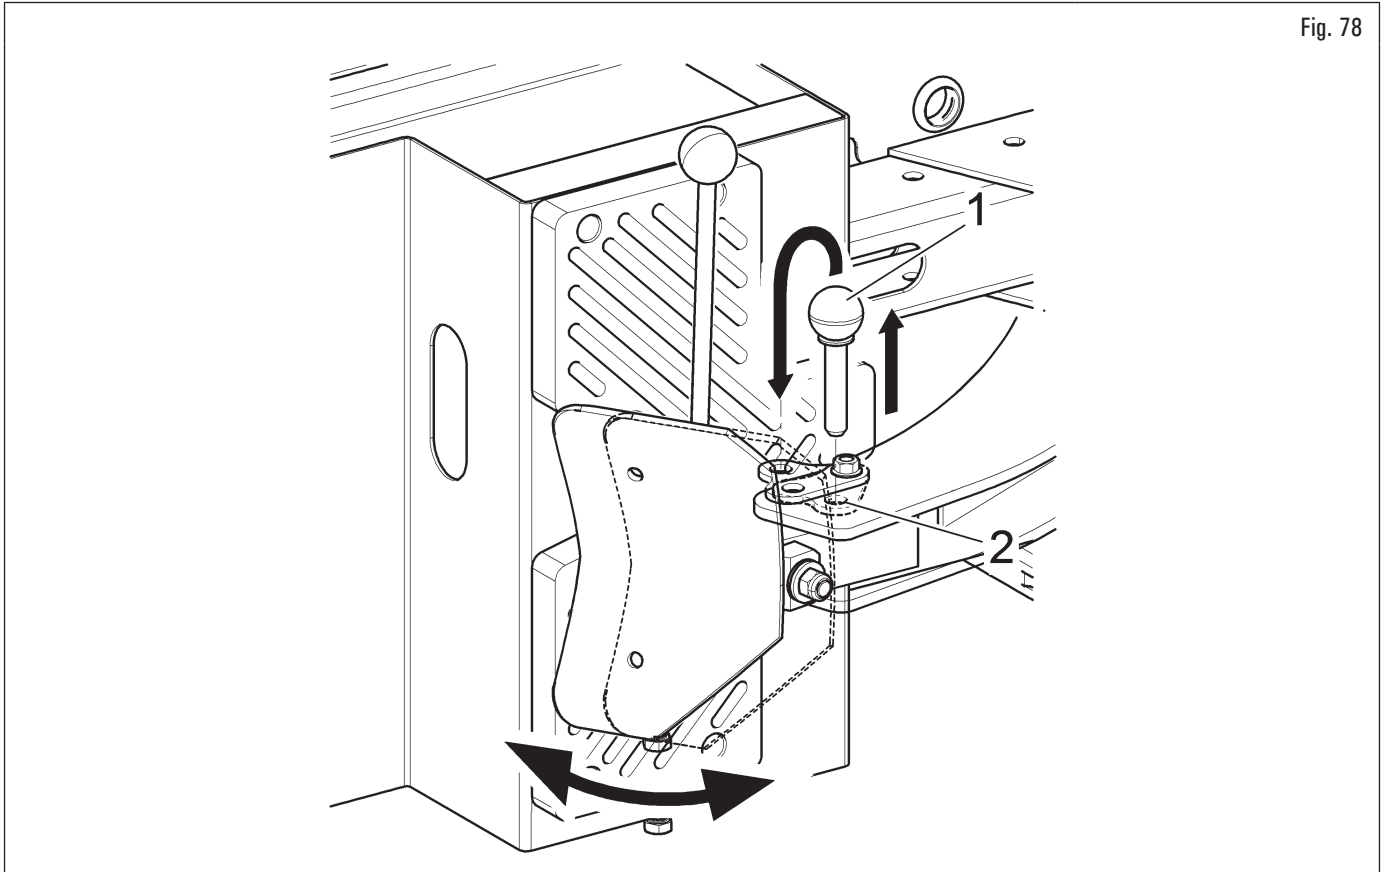

Fig. 78
The bead breaker is equipped with a double articulation (Fig. 78) that allows the optimization of the position between the shovel and the tyre bead during bead breaking phase, through its introduction in between the bead and the rim edge.
While operating with rims with protected edge or with lowered tyres and/or thick tyres, You should place the shovel articulation in order to use the hole (Fig. 78 ref.2).
To change the shovel position on the articulation, take off the pin (Fig. 78 ref. 1) from the hole, turn the vane until the desired hole is placed in correspondence with the articulation hole, then insert the pin again (Fig. 78 ref. 1) into the new seat.